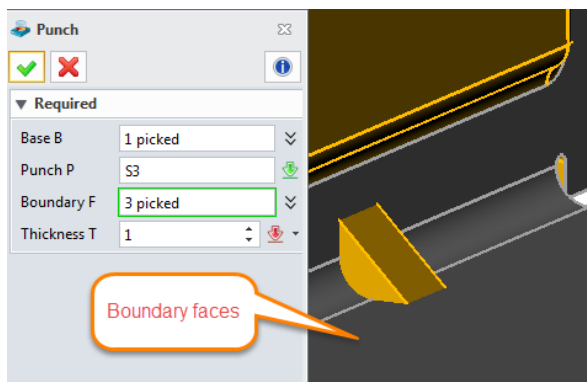

Figure 83 Punch a Stiffener
STEP 04 Punch a stiffener as shown in Figure 83.